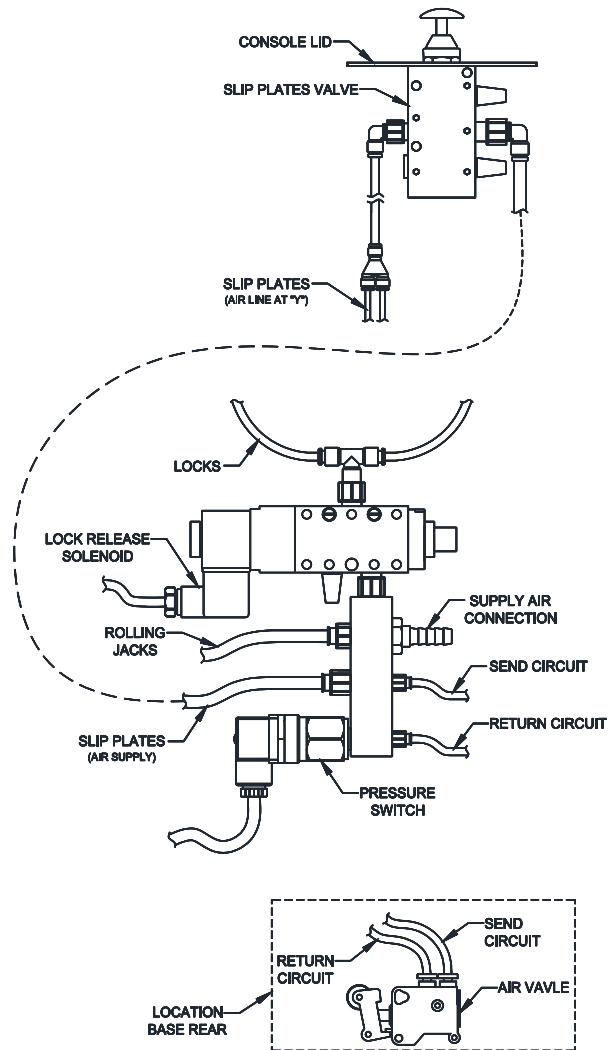

Fig. 7 – Pneumatic Connections
LABEL 34	<p style="text-align: center;">BLEEDING/SYNCHRONIZATION PROCEDURE</p> <p>1) After adding fluid to the reservoir, turn power on and ensure the disconnect switch is in the "ON" position and proceed with the following steps. IMPORTANT: DO NOT skip any step.</p> <p>A. Ensure all 3 valves are closed, Fig 7. B. Press PHOTOCELL OVERRIDE & UP until both platforms stop moving.^{*Note 1} C. OPEN all 3 valves. D. Press PHOTOCELL OVERRIDE & UP until both platforms stop moving. E. Bleed air from each platform cylinder, Fig 8. F. If platforms lower into a lock position, press UP. G. Continue bleeding until oil begins to escape. H. Press UP until both platforms stop moving. I. CLOSE all 3 valves. J. Press PHOTOCELL OVERRIDE & DOWN.^{*Notes 2,3} K. Repeat entire procedure.^{*Note 4}</p> <div style="display: flex; justify-content: space-around;">   </div> <p style="text-align: center;">Fig. 7 – Valves (Hoses not shown)</p> <p>Note 1: If platforms do not rise after pressing UP for 30 seconds, continue to step "C" of procedure.</p> <p>Note 2: If platforms stop moving while lowering, OPEN all 3 valves and continue lowering. Once both pads are completely lowered, CLOSE all 3 valves and repeat the entire bleeding procedure.</p> <p>Note 3: With platforms completely lowered, add oil to fill reservoir.</p> <p>Note 4: The bleeding procedure should be performed at least 3 times and repeated until both platforms are synchronized thru the complete raising and lowering of the platforms and no air comes out of either bleed screw.</p> <div style="text-align: center;">  <p>Fig. 8 – Bleed Screw</p> </div> <p style="text-align: right;">SX14-SYNC 2016-02-15</p>
- 19) The air lines from the lift can be identified using the following table. Connect each air line according to **Fig. 7**.